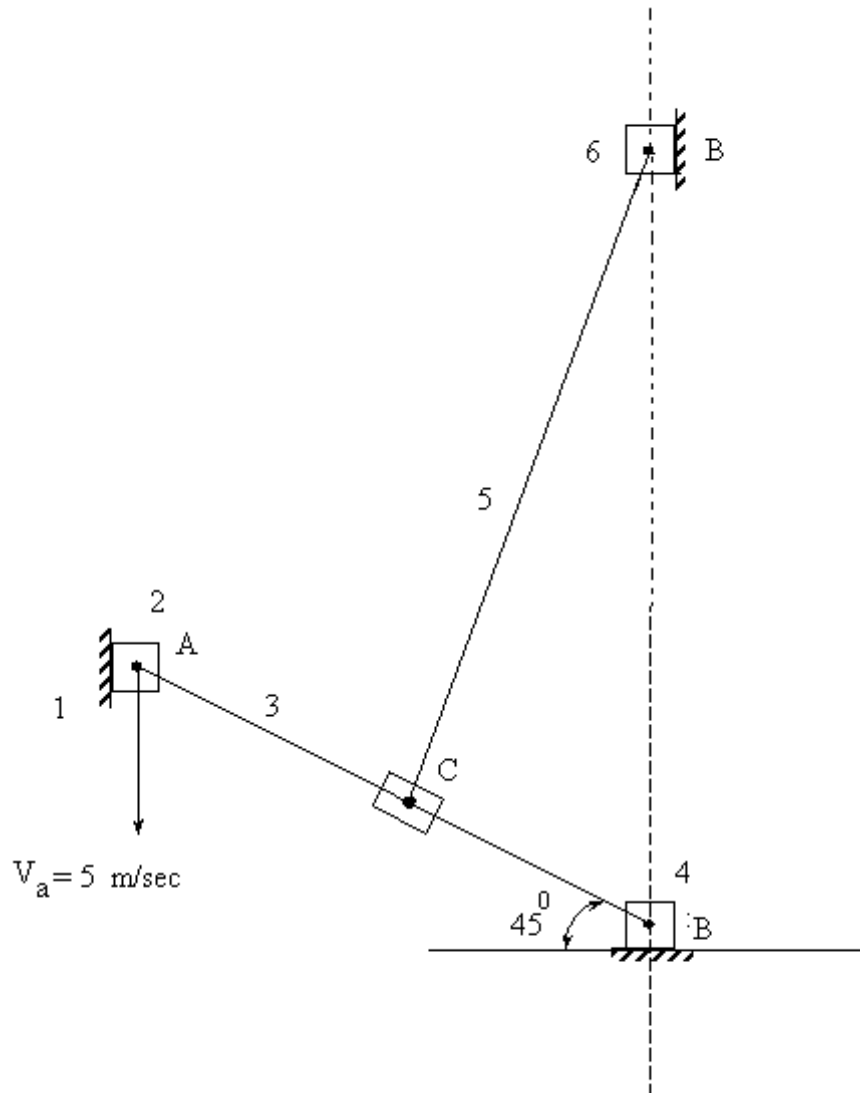

Figure 3
3. In the mechanism shown in Figure 3 the slider moves uniformly vertically downwards at 5m/sec. The various dimensions of the link are AB = 15cm, AC = 10cm and CD = 20cm. Determine: